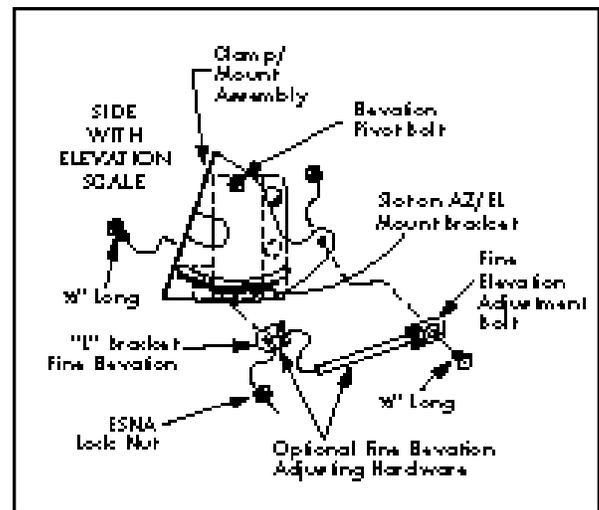

FIGURE 4 - Az/El Assembly - Optional Fine Elevation Adjust.
5. **For Models equipped with Fine Elevation Adjustment Option:** Assemble long fine tune elevation bolt to the Az/El mount elevation bracket with an embossed elevation scale using a $\frac{1}{2}$ " long carriage bolt and ESNA locknut. Tighten and then loosen $\frac{1}{3}$ turn to allow bracket to pivot. See Figure 4.
6. Thread the L-bracket onto the long fine elevation adjustment bolt approximately one inch. Then assemble the L-bracket to the elevation slot with a $\frac{1}{2}$ " long carriage bolt passing through the square hole in the clamp tab, elevation adjustment slot, and L-bracket. Capture all with an ESNA lock nut. Tighten nut and then loosen $\frac{1}{3}$ turn. See Figure 4.